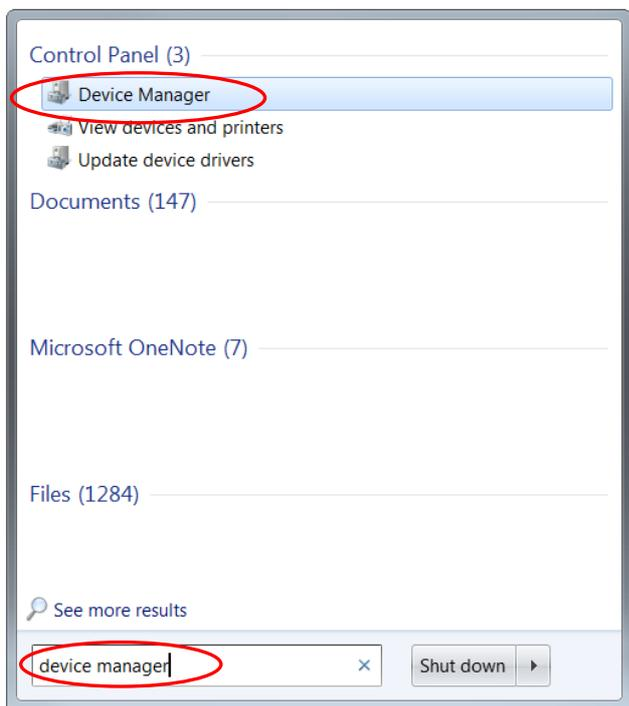
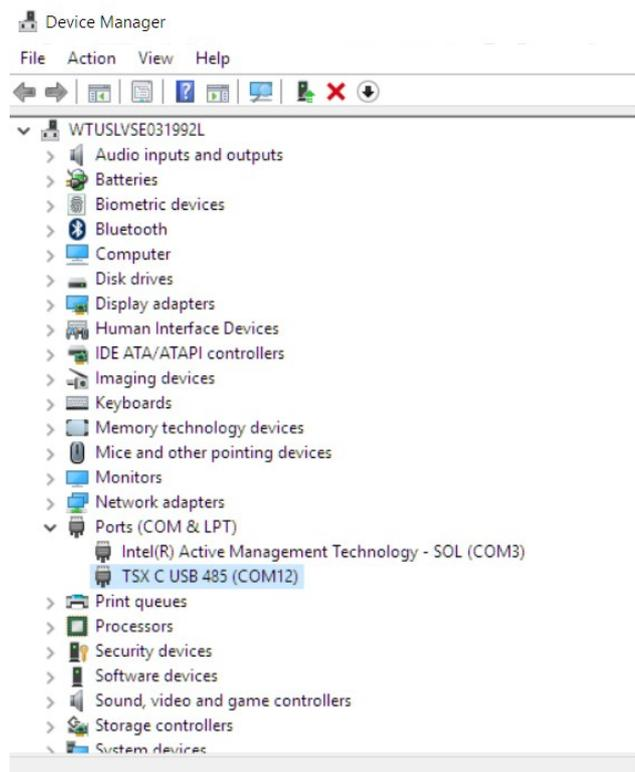

Figure 14
Figure 15
6. Identify the USB COM port used by the TCSMCNAM3M002P. To do so, connect the cable at both ends, click the Start menu on your PC and search for "Device Manager", as in Figure 14. Open the Device Manager, then, click on Ports (Com & LPT) and read the number of the port "TSX C USB 485": In the example below, it is **COM12**, as in Figure 15.